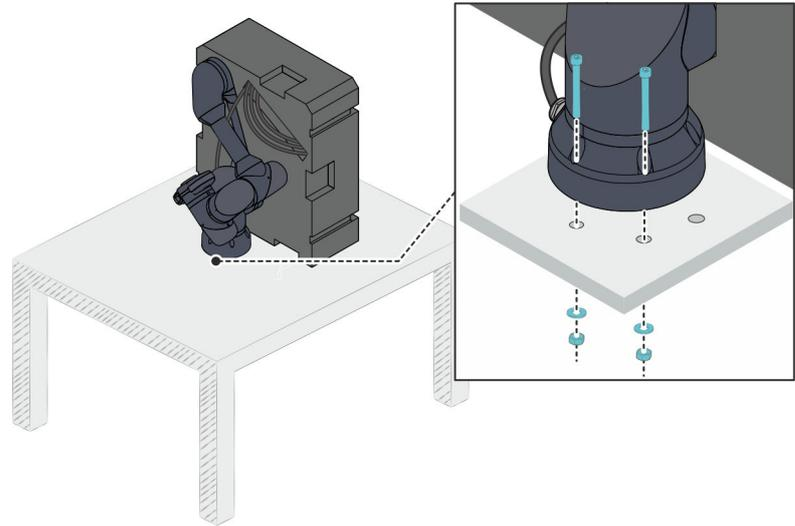

Fig. 48 Example: Assembly with through bores (part 1)
12. Align the robot with the packaging part 3 on the drill holes on the table plate Fig. 48.
- Insert at least two bolts (M8) with washers (M8) through the openings on the free side of the robot base Fig. 48.
- Place washers (M8) and lock nuts (M8) on the bolts and initially tighten lock nuts clockwise to a tightening torque of 13 Nm Fig. 48.
- Initially tighten the bolts clockwise to a tightening torque of 13 Nm Fig. 48.